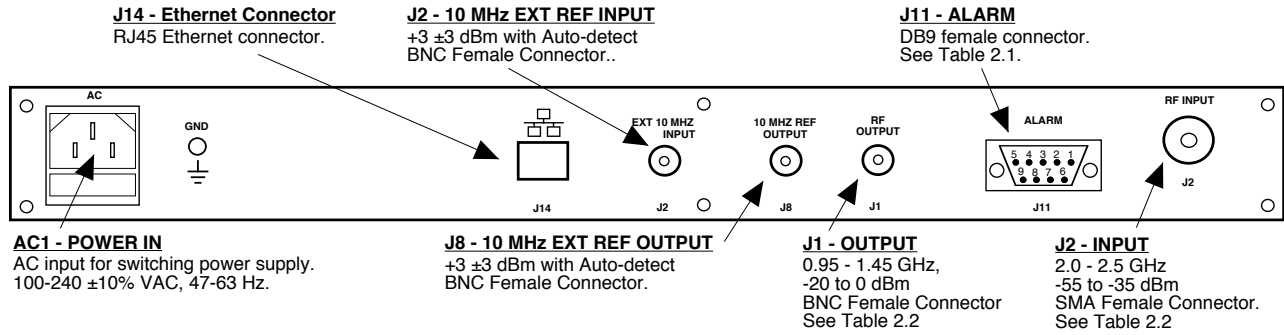

FIGURE 2.1 3116-2025 Rear Panel I/O's
Figure 2.1 shows the input and output connectors on the rear panel.
1. Connect a -55 dBm to -35 dBm signal to RF IN, J2 (Figure 2.1).